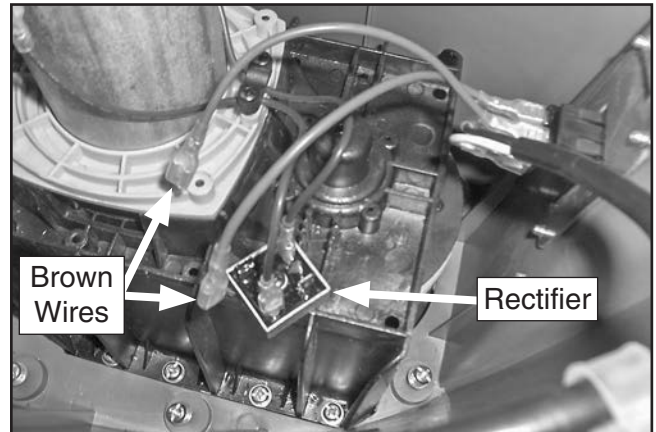

Figure 22. Wires removed from rectifier.
4. Remove two brown wires (#72) connected to rectifier (#69) shown in **Figure 22**.